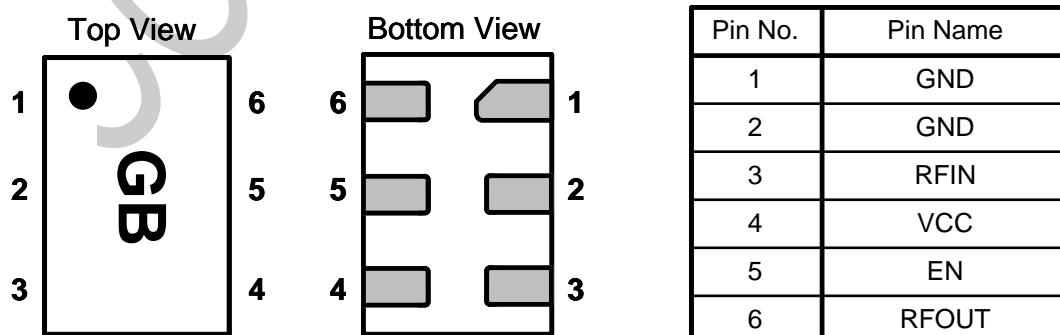

Figure 2. SW7135 Pin Configuration and Marking
1. The SW7135 requires no external capacitor/inductor for input matching. Optional supply decoupling capacitor is 1nF. For schematics see Figure 2.